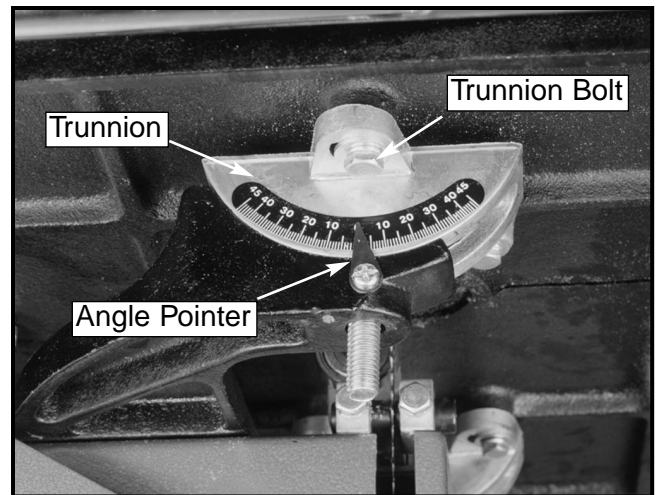

Figure 6. Trunnion assembly.
4. Slip the table past the blade through the table slot, rotate the table 90°, and set the table trunnions onto the bracket. Make sure the trunnion bolts (#72) drop through the support bracket. **See Figure 6.**